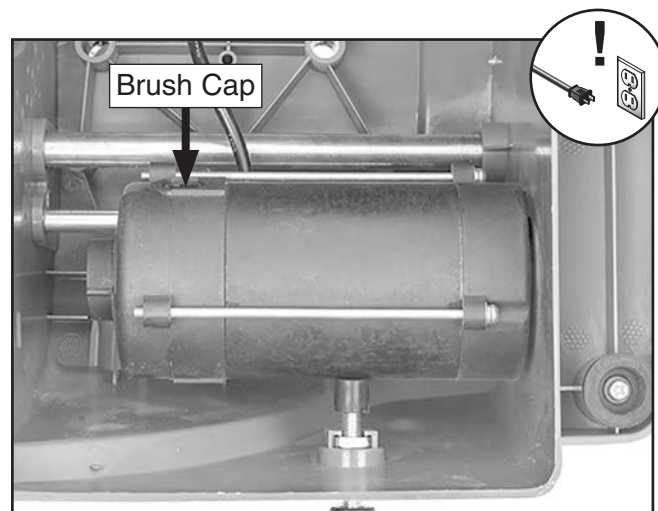

Figure 38. Location of brush caps and brushes on motor.
4. Remove brush caps and worn brushes from motor (see **Figure 38**).